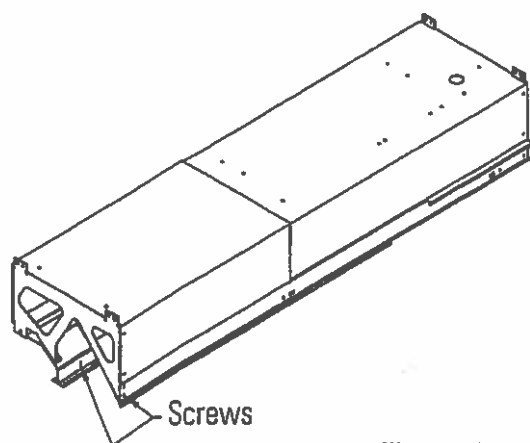

Figure 4
4. To adjust fixture to proper length, remove the number 8 screws on T-Trim and Hang Bracket that keep Sliding Sleeve from moving. (Fig. 4)